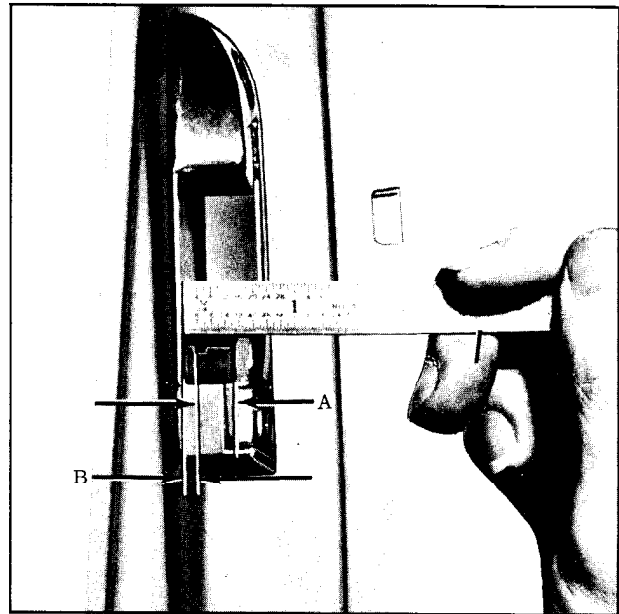

Fig. 15-20 Door Lock Striker Engagement Check
2. To determine if door lock striker emergency spacers are required, apply modeling clay or body caulking compound in door lock striker notch where lock extension engages, and then close door to form measurable impression in clay or caulking compounds as shown in Fig. 15-20.